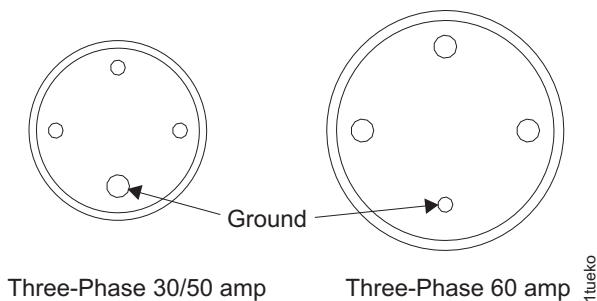

Figure 37. Three-phase amp
4. Measure the resistance between the customer AC power outlet ground pin and the building ground. Refer to Figure 37 for the location of the ground pin.